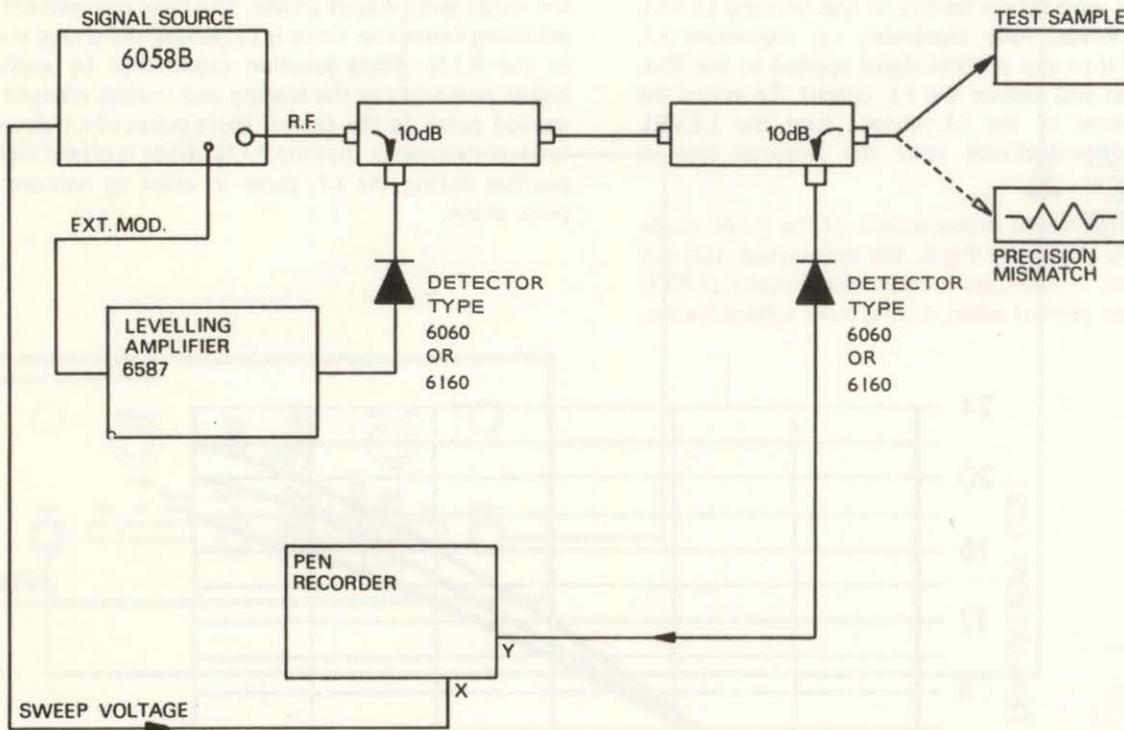

Fig. A1 V.S.W.R. Measurements
The Signal Source 6058A, can be used in conjunction with an X-Y recorder to provide a permanent record of broadband measurements. When used in this mode the source is operated in a similar way to the Microwave Sweeper Type 6600A with the rear panel BNC socket providing the sweep voltage. Reflectometer and insertion loss measurements can be made in the usual way see Figs.A1 and B1. The output voltage is zero at 8 GHz and approximately 10V at
A. Manual Sweep Frequency Measurements of V.S.W.R. Using the equipment as shown in Fig.A1 a permanent record of test results can be obtained over the complete frequency range of the